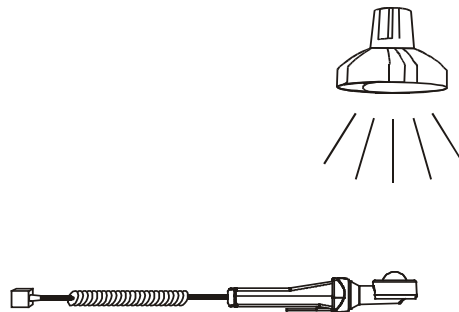

Figure 5.46: Positioning of the luxmeter
- Switch the luxmeter on and position it underneath the light source (see figure 5.46).